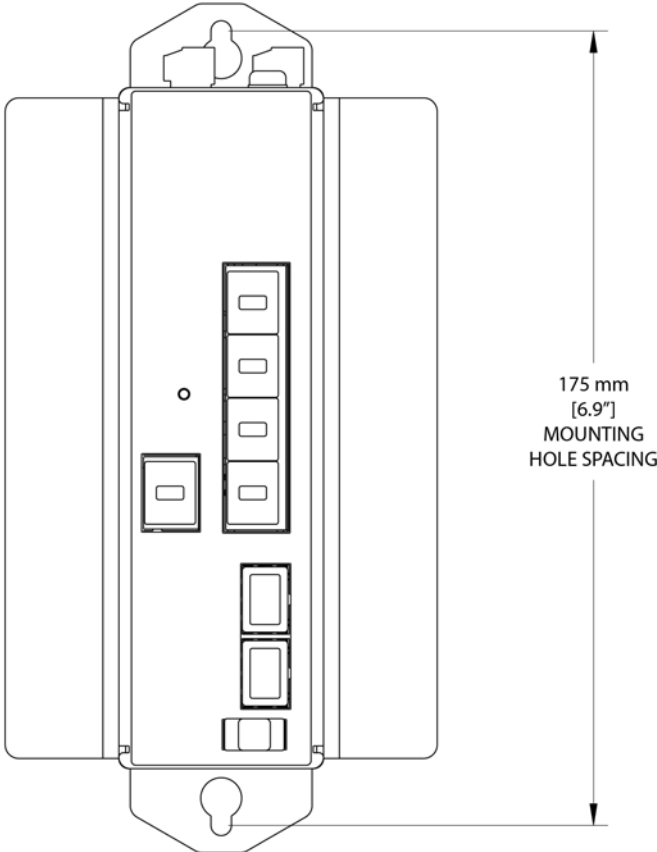

Figure 11: Spacing between mounting holes.
3. Fasten the switch to the wall with #8 x 1.5" pan head wood screws. The distance between the mounting holes is 175 mm. (6.9 in.), as shown in Figure 11.